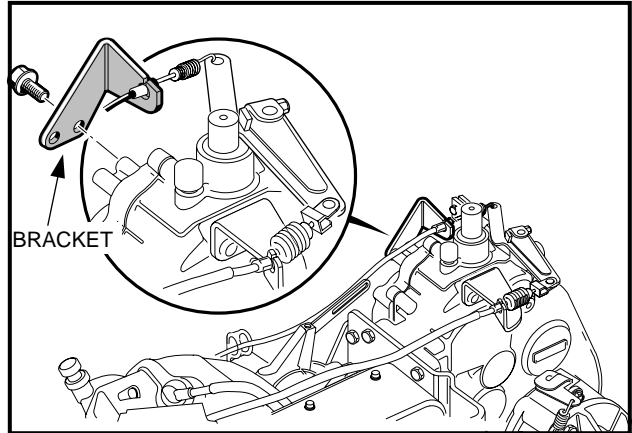

Figure 16-37 Accelerator Cable Bracket
18. Remove screws securing the accelerator cable bracket to transaxle (**Figure 16-37, Page 16-15**).